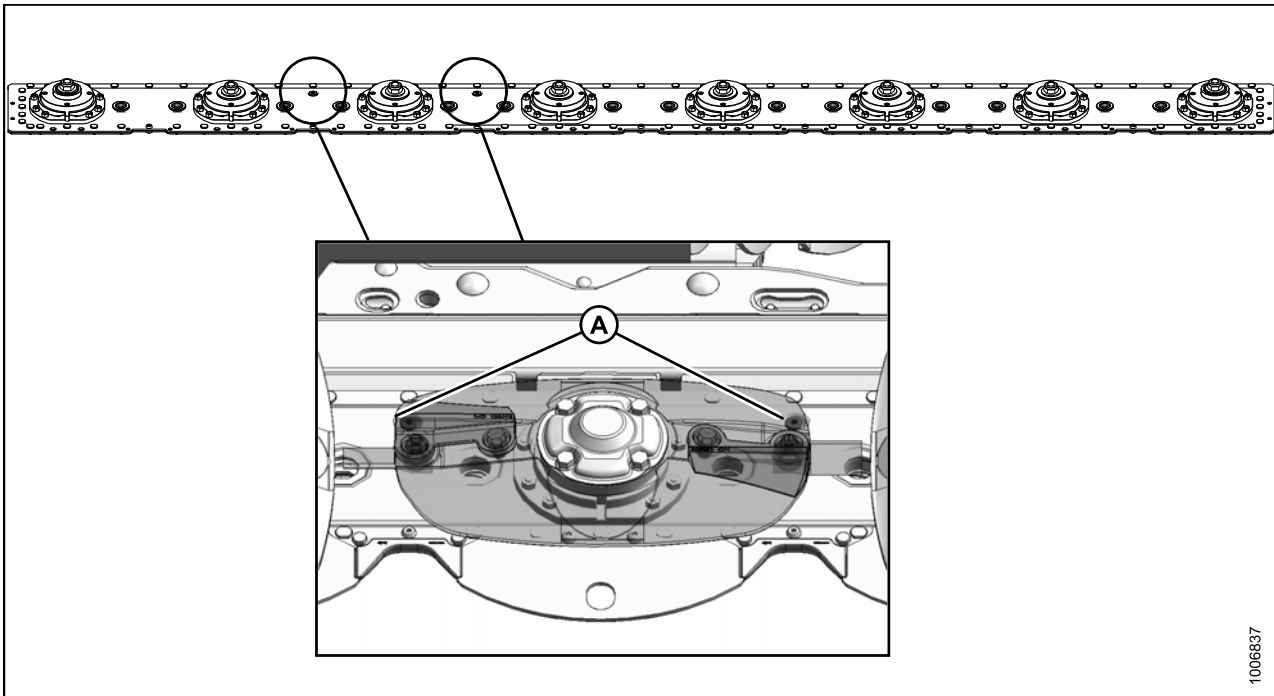

Figure 5.14: Cutterbar Filler Plug Locations
10. Locate one of the two filler plugs along the top of the cutterbar. Refer to Figure 5.14: Cutterbar Filler Plug Locations, page 118.